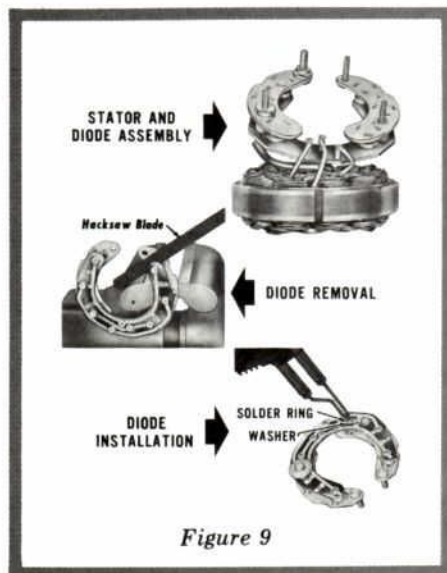

Figure 9
2. Hold the diode plate that is to be replaced, in a vise. Use a thin hacksaw blade to cut the three diode leads as close to the diodes as possible being careful not to break the printed-circuit board. See Figure 9.